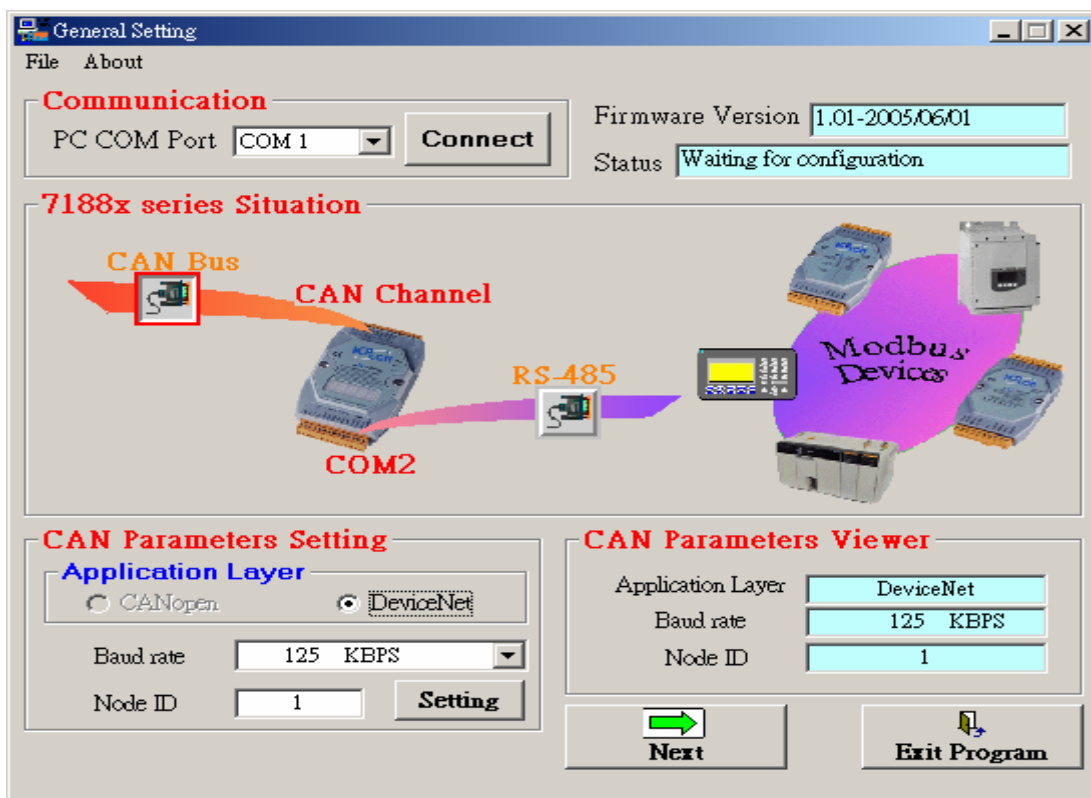

Figure 6-19. "General Setting"
**Step 5:** After reading parameters from EEPROM, a related information dialog box will be displayed as figure 6-19.